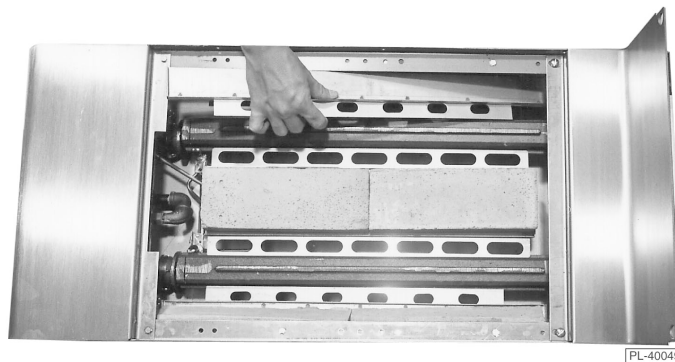

Fig. 14
2. Narrow Supports (2) — Place one on each side with smooth surface down and oval holes to outside (Fig. 14).
4. Large Bricks (2) — Set in center support as shown in Figs. 14 and 15.